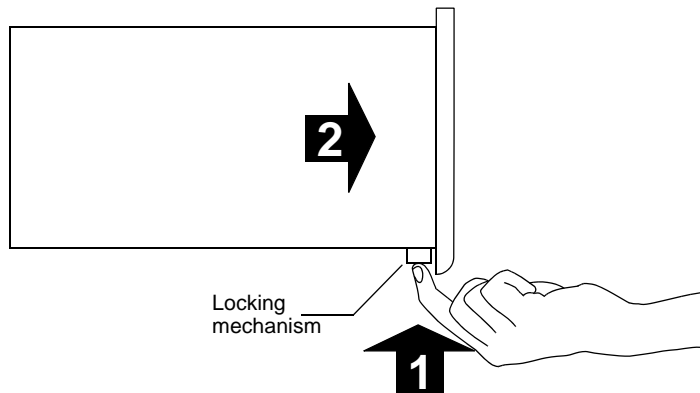

Figure 2-3. Removing an IQ Module
2. If your module has a locking mechanism (which can be found under the front panel of the module), press it up as shown in Figure 2-3. Otherwise, simply place your fingers under the front panel of the module.